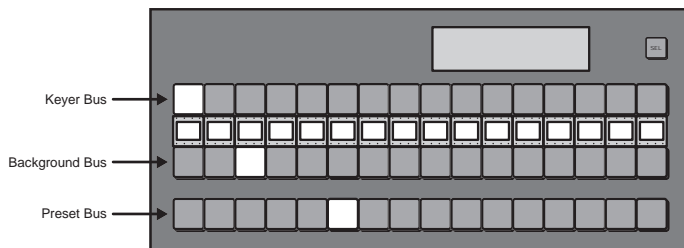

Figure 5.23 Program/Preset Bus
2. Select the video source that you want to transition to on the **Preset** bus of the same MLE (**Figure 5.23**).